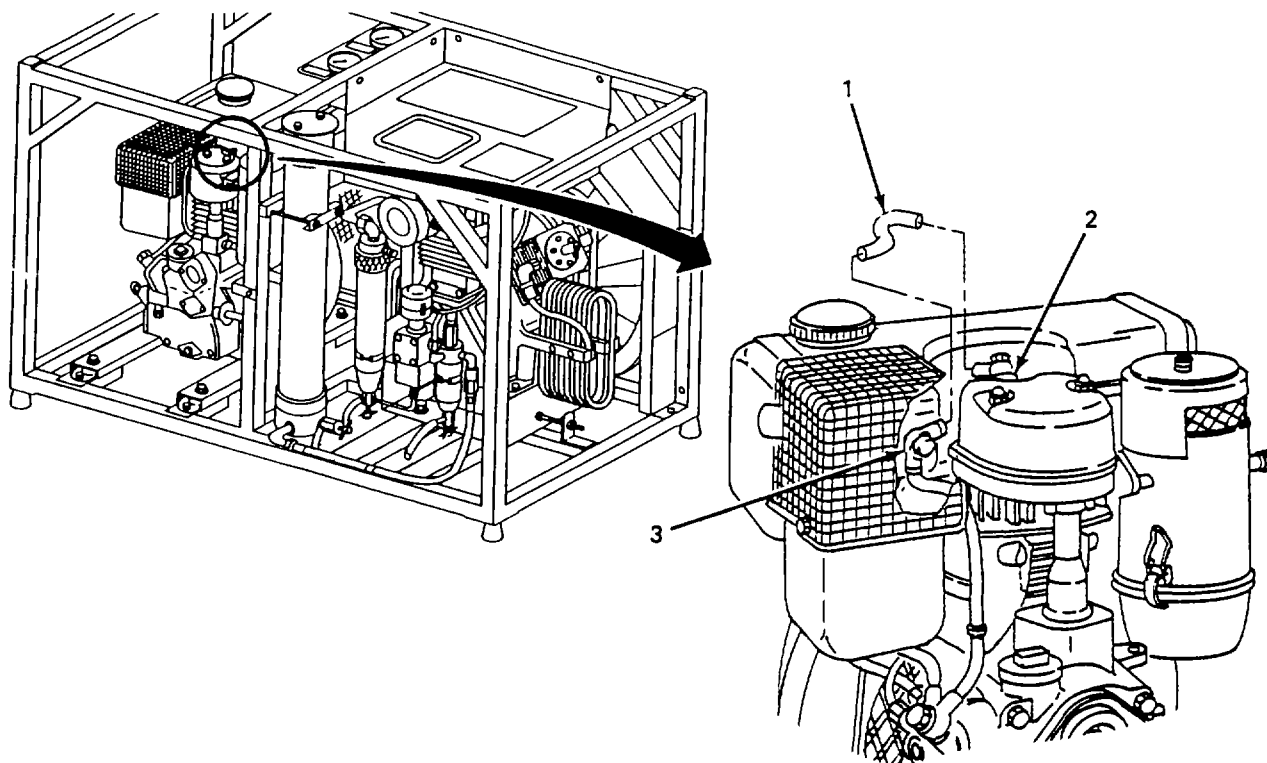

Figure 4-19. Injector Overflow Line, Replace.
(3) *Injector overflow line.* (figure 4-19)
- (a) Disconnect fuel line (1) from injector (2).
- (b) Disconnect fuel line (1) from fuel tank fitting (3) and remove fuel line (1).
- (c) Connect fuel line (1) to fuel tank (3).
- (d) Connect fuel line (1) to fuel injector (2).